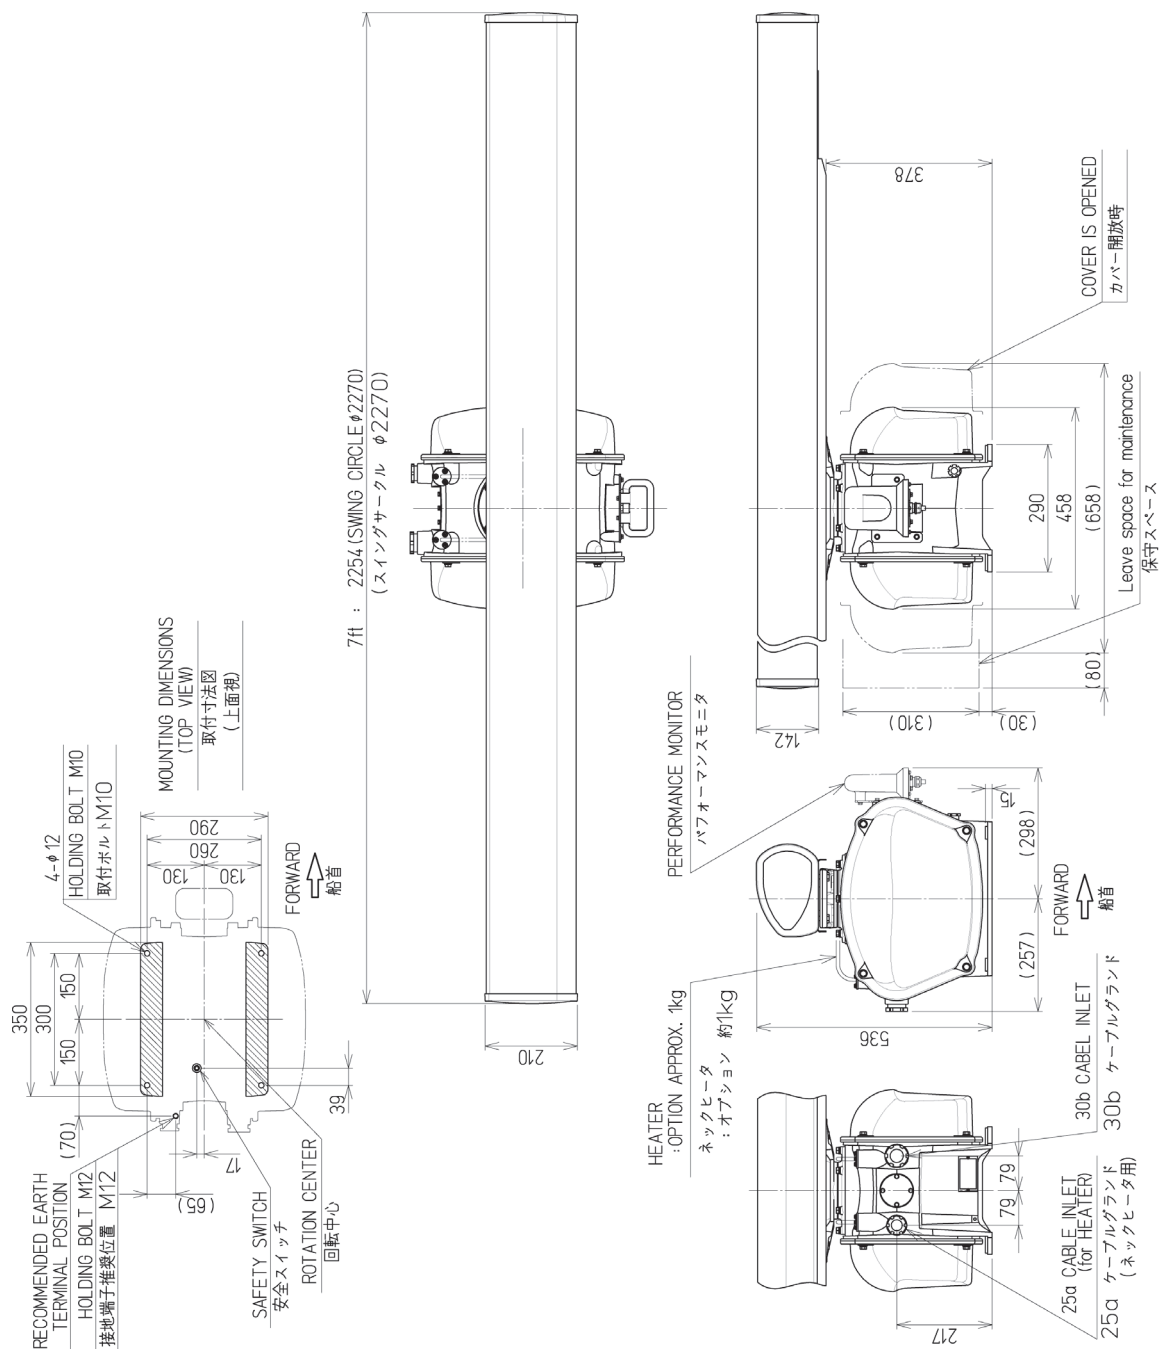

Fig. 1.6 Exterior Drawing of Scanner Unit, Type NKE-2254-7
- Fig. 1.6 Exterior Drawing of Scanner Unit, Type NKE-2254-7